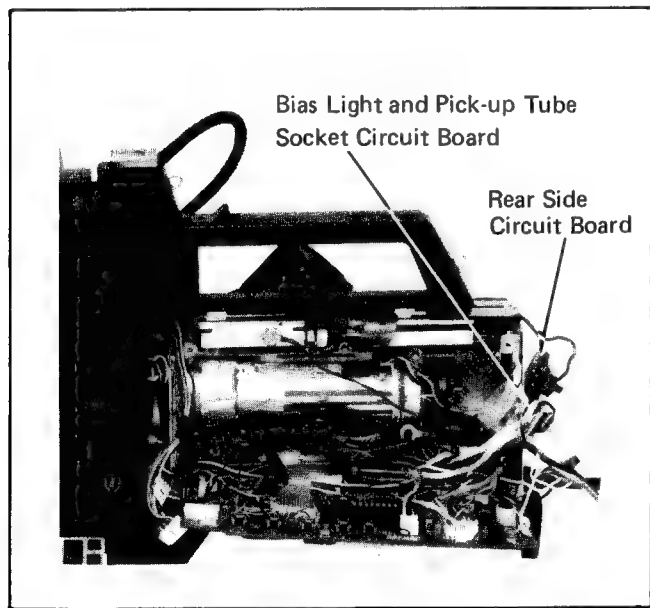

Fig. 6. Right Side View
- 3-7. Remove the pick-up tube socket circuit board and the bias light holder from the pick-up tube. (see Fig. 6)